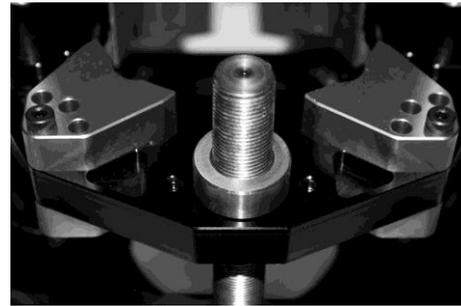
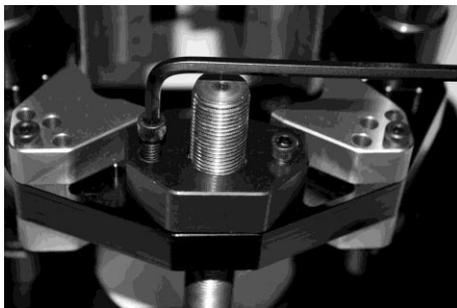

Figure 12
Figure 11
2. Remove the 1/4-20 x 1" Cap Screws from the Carriage Nut Cover (Figure 11) and remove the cover and o-ring (Figure 12)
6. Place back the o-ring and carriage nut cap and with the screws you removed in Step 2 (Figure 11) fasten the carriage nut cap securely